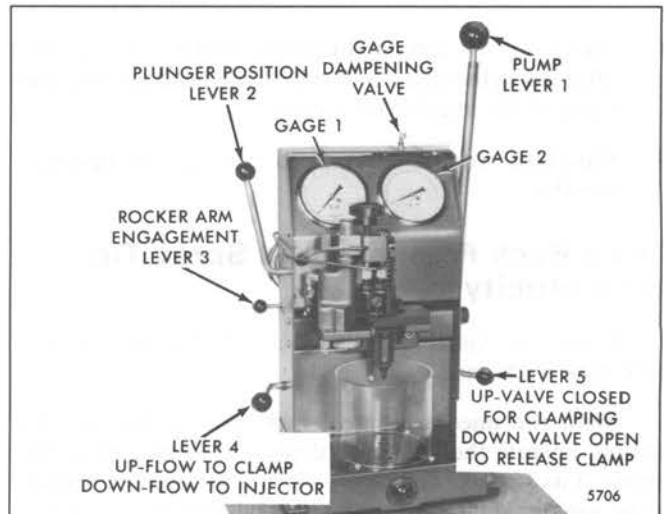

Fig. 35 – Injector in Position for Testing with Tester J 23010-A
1. Clamp the injector properly and purge the air from the system (Fig. 35).
- Clamp the injector properly in Tester J 23010-A and purge the air from the system (Fig. 35).